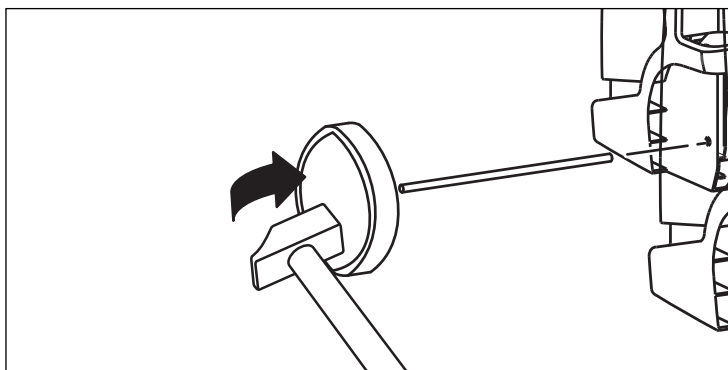

Figure 2
5. Assemble one wheel to axle and slide through back of pressure washer and detergent tank (Figure 2).